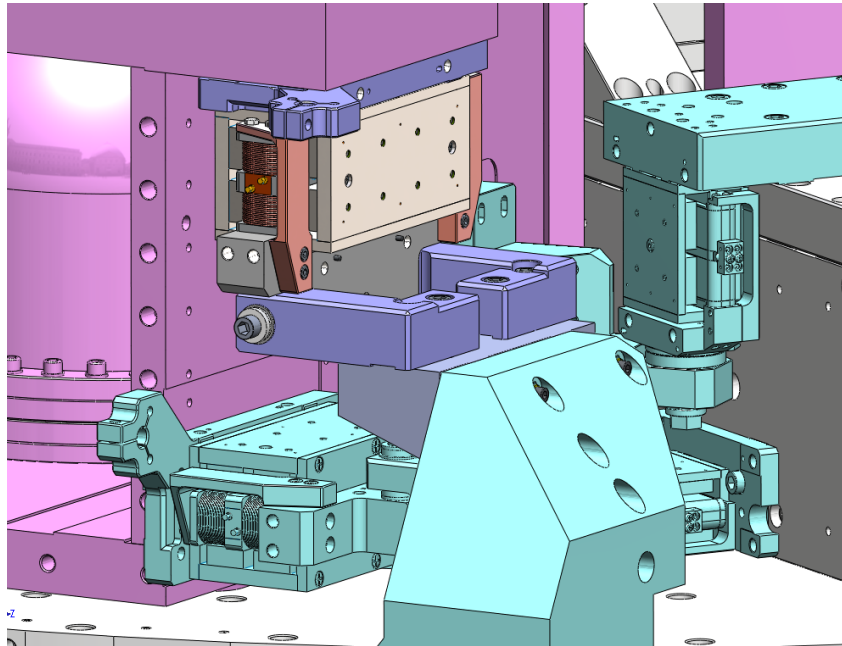
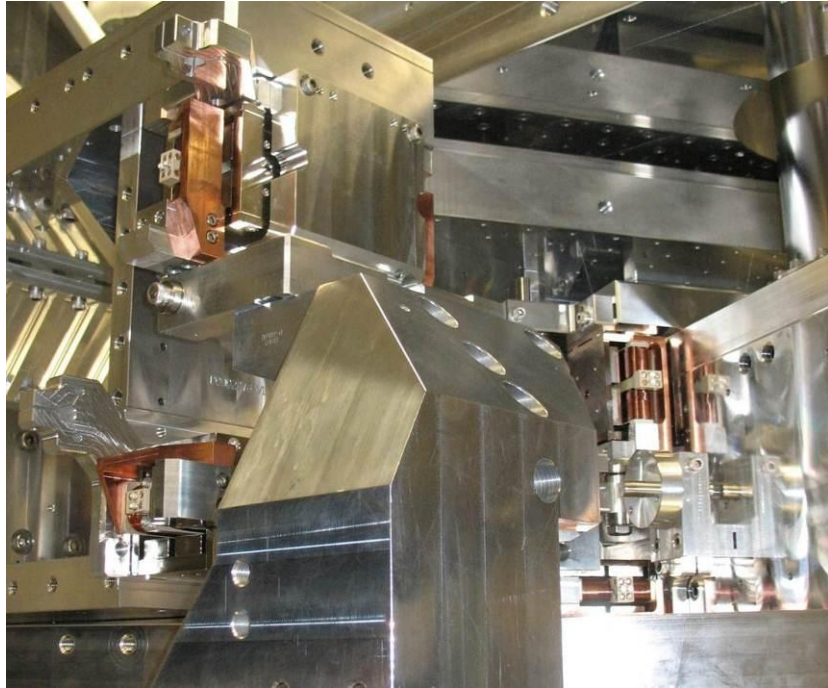

Figure 156: D0901102 & D0901103 Actuators Assemblies fully installed
Figure 157: D0901102 & D0901103 Actuators Assemblies installed on the BSC-ISI (LASTI dirty build)
(4) 5/16 Vented Washers – UCC WFV-31
- Attach D0902310 Stage 0-1 Horizontal Actuator Magnet Bracket to D0902273 Stage1 Close Out Plate (SHCS from top side of plate) as shown on Figure 156 & Figure 157.